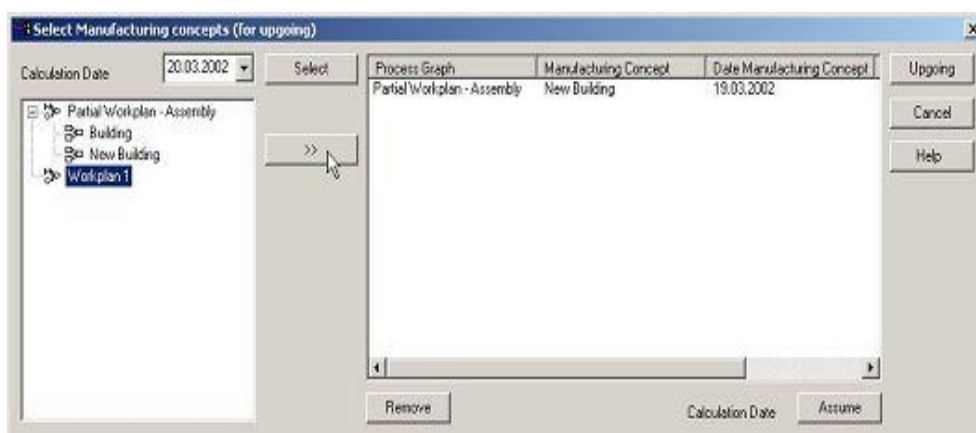

Figure 78: Selecting Manufacturing Concepts for Upgoing (run-up) Calculation
- 2) Click **Upgoing**. The **Select Manufacturing Concepts (for upgoing)** dialog opens. *Please refer to the Figure 78.*
- 3) Select the required Manufacturing Concept from the left window. You must select two Manufacturing Concepts for each upgoing run-up calculation. *Please refer to the Figure 78.*